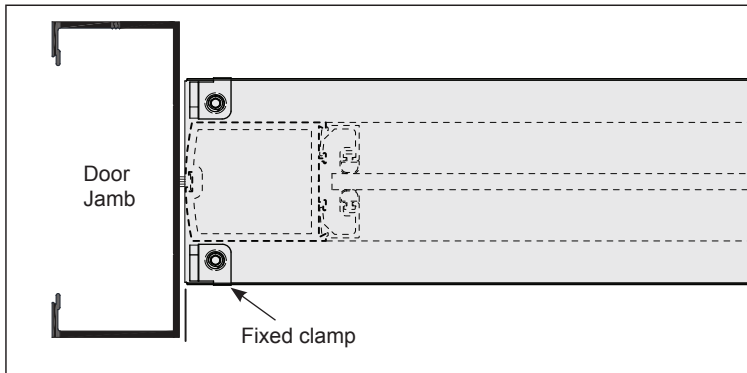
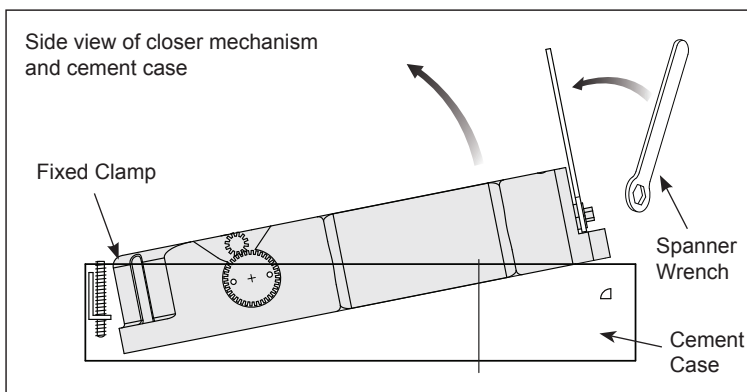

FIG. 4
FIG. 5
2. Fabricate a recess opening in the floor for the closer and cement case. When completed, set the cement case in the prepared floor opening with the fixed clamp side of the case nearest to the door jamb. **(Fig. 4)** The closer mechanism can be removed from its case if needed. Simply turn the set screws on the Fixed and Removable Clamps to release the mechanism. Lift the front of the closer using the adjustment Spanner Wrench. **(Fig. 5)**